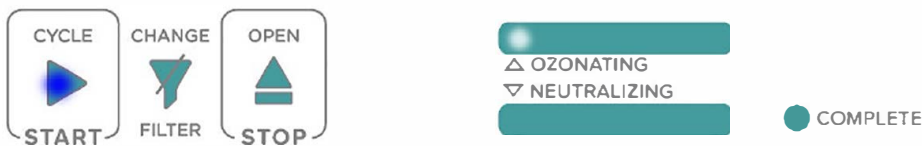

Figure 6: LED indicators illuminated once the START button has been selected.
START button (A) – This button starts the ozonating cycle. Once the lid is locked, the START button will begin to blink. If the blinking button is selected, the blue START button will illuminate solid and a white LED will begin blinking to indicate the ozonation cycle has begun, as shown in *Figure 6*.
- J. Once the cycle is started, the status will be indicated by the white lights on the Ozonating status indicator as shown in Figure 6 on page 16. After one minute has passed, the NUTROZ device will produce an audible sound to indicate initiation of the ozone generation part of the cycle. When the ozone generation portion of the cycle is finished, the NUTROZ device will produce another sound to indicate the initiation of neutralization. This sound will be accompanied by illumination of the first white light on the neutralizing status indicator.